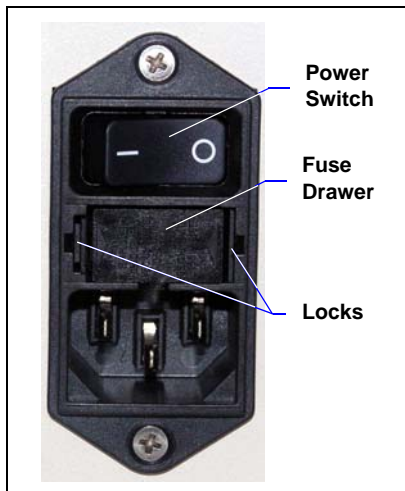

Figure 5-18. Dionex AS-DV Fuse Drawer
1. Turn off the power switch on the Dionex AS-DV rear panel (see Figure 5-18).
3. The fuse drawer is located below the main power switch (see Figure 5-18).